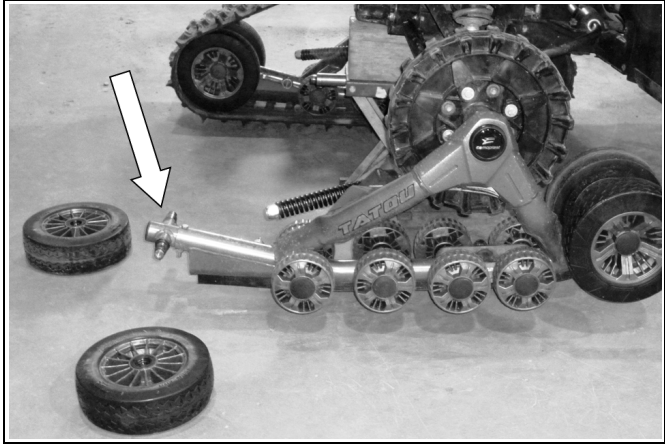

Figure 15
- Remove the two 255 mm wheels opposite to the track tensioner side (refer to Figure 15).